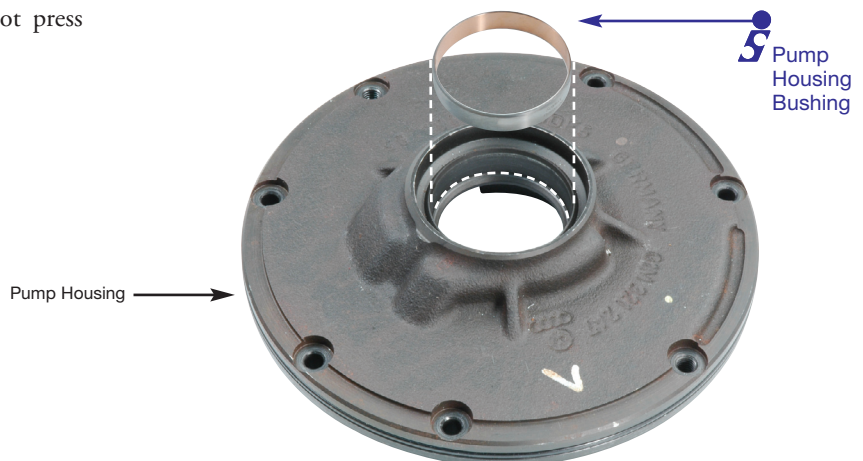

Figure 1
1. Install the pump housing bushing so it is level with the bottom of the housing's bore chamfer. Do not press bushing to bottom of bore (see Figure 1).